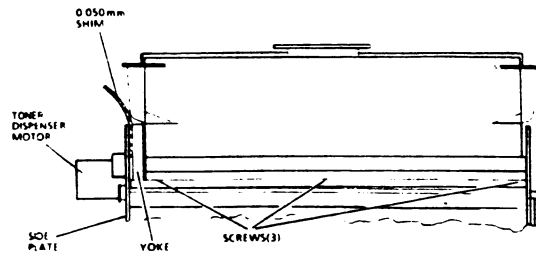

Figure 2. Replacing the Dispenser Assembly
2. INSERT THE FRONT OF THE BOTTOM EDGE OF THE DISPENSER ASSEMBLY INTO THE DEVELOPER MODULE AND POSITION THE ASSEMBLY FOR MOUNTING (FIGURE 2).